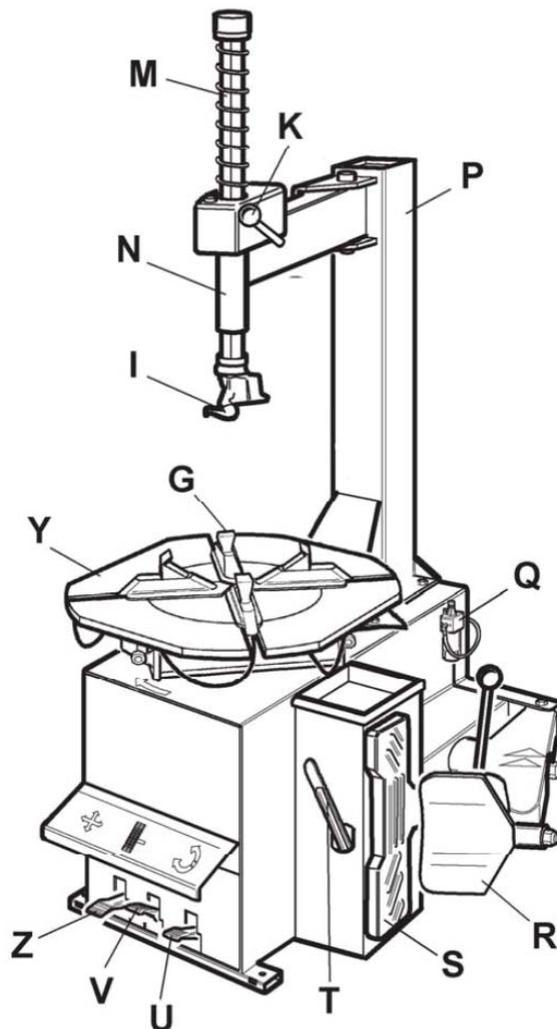

Fig. 1
- Check that the equipment is in perfect condition, making sure that no parts are damaged or missing. Use Fig. 1 for reference.